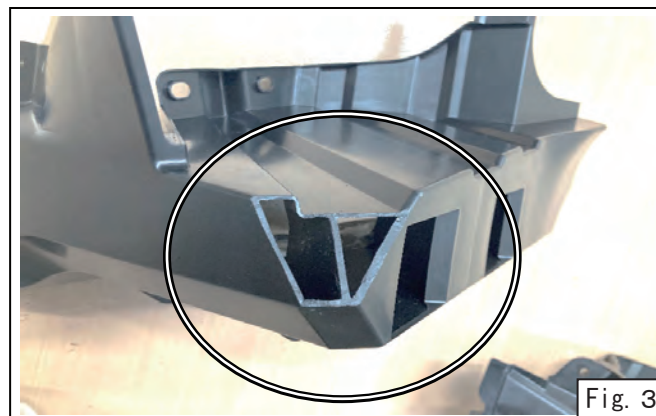

Fig 3. Rear bumper side cover after cutting process
- (2) Cut the stock rear bumper side cover of both right and left sides along the line with the cutting position. (Fig. 3)